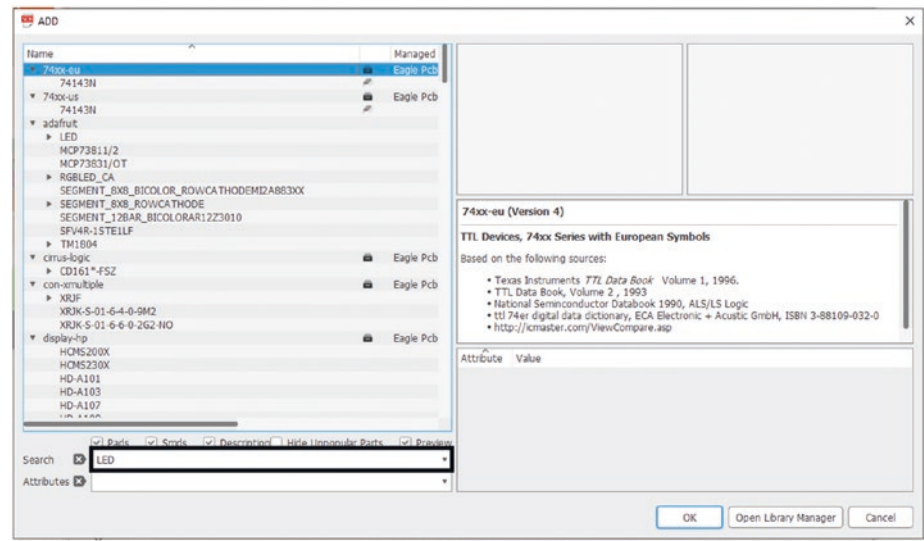

Figure 5-24. Search for LED
- 11. In the search bar, type in “LED” and press enter. See Figure 5-24.